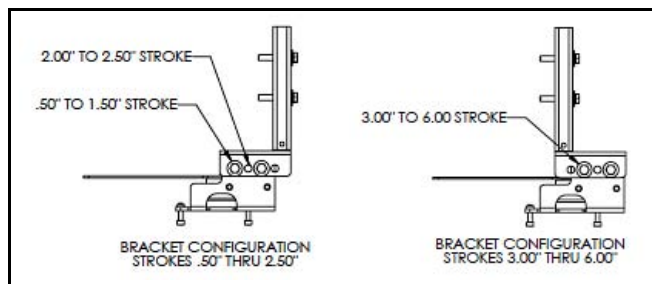

Figure 14 Bracket Configuration Strokes .5 - 2.50\" and 3-6\"
4. Mount take-off bracket to stem block at angle which keeps turnbuckle assembly parallel to stem (Figure 14) using: